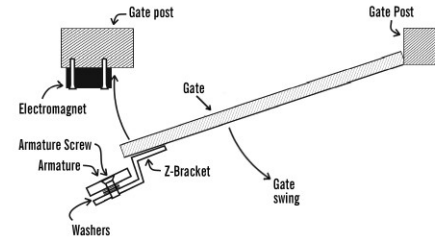

FIG. 4 - Installation on a sliding gate
3. **Sliding gate** (fig. 4) — The gate slides instead of swings away from a fixed gate post. In this case, use L-brackets to mount the electromagnet and the armature perpendicular to each other.